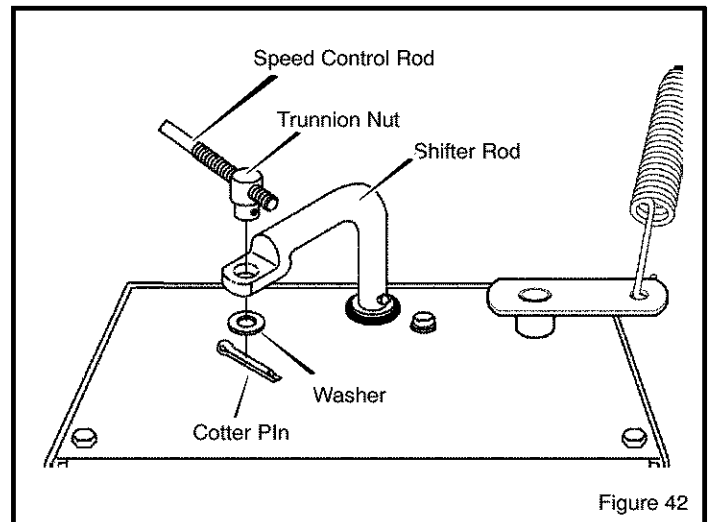

Figure 42
2. Remove **washer** and **cotter pin** that connect the **trunnion nut** to the **shifter rod**. Remove the **trunnion nut** from the **shifter rod** (see Figure 42).
4. Turn the **trunnion nut** until it is aligned with the mounting hole in the **shifter rod** (see Figure 42). When aligned, attach the **trunnion nut** and secure with **washer** and **cotter pin**.